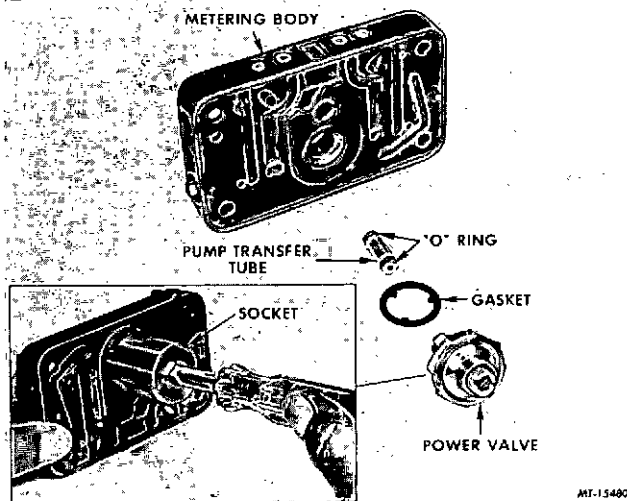

FIG. 30 Primary Metering Body with Acceleration Pump Transfer Tube (Disassembled View)
6. Remove power valve using 1" wrench or power valve socket. Remove power valve gasket and pump transfer tube with "O" rings (if used) from metering body (Figure 30).
2. Install a new gasket on power valve and install with proper wrench or socket. Torque to 100 in. lbs. (Figure 30).